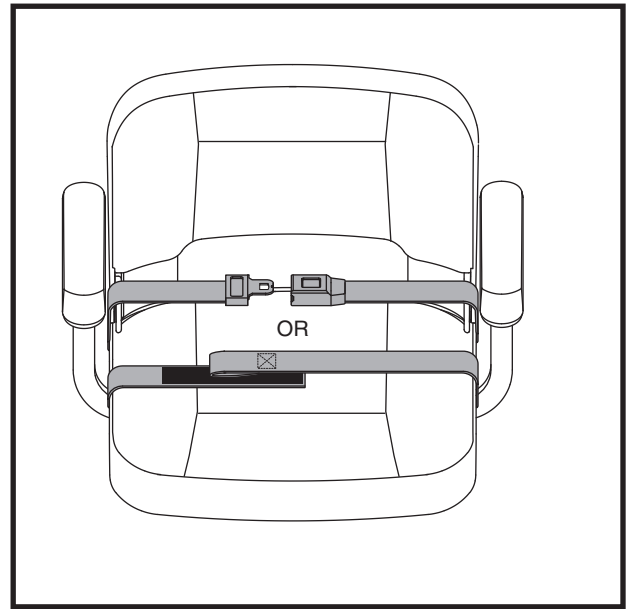

Figure 24. Positioning Belt - Metal Tab Style or Reusable Hook and Loop Fastener Style
1. Insert the metal tab on the right side of the belt into the plastic housing on the opposite strap until you hear a “click.” See figure 24.
1. Align the two sides of the belt placing the looped-end side directly above the coarser side (“hook”) of the opposite belt. Press firmly together to fasten. See figure 24.